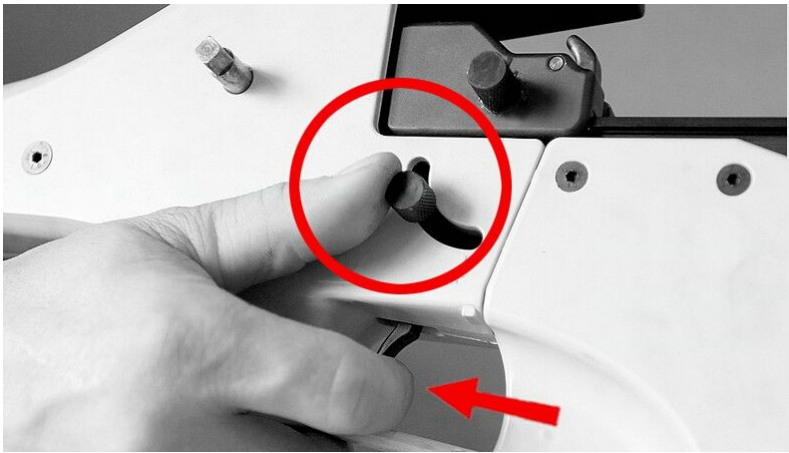

Figure.11
1. To let the crossbow down without shooting,use thumb press the hammer.and press the trigger at same time.Apply a slight pressure until release the hammer to safe position(Figure 11).